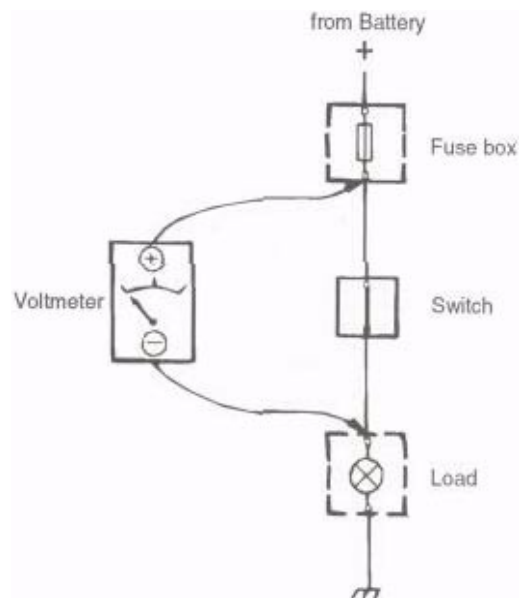

Fig. 3. Voltmeter being used to check for voltage drop.
2. Connect the voltmeter negative lead to the other end of the cable or switch being tested. See Fig. 3.